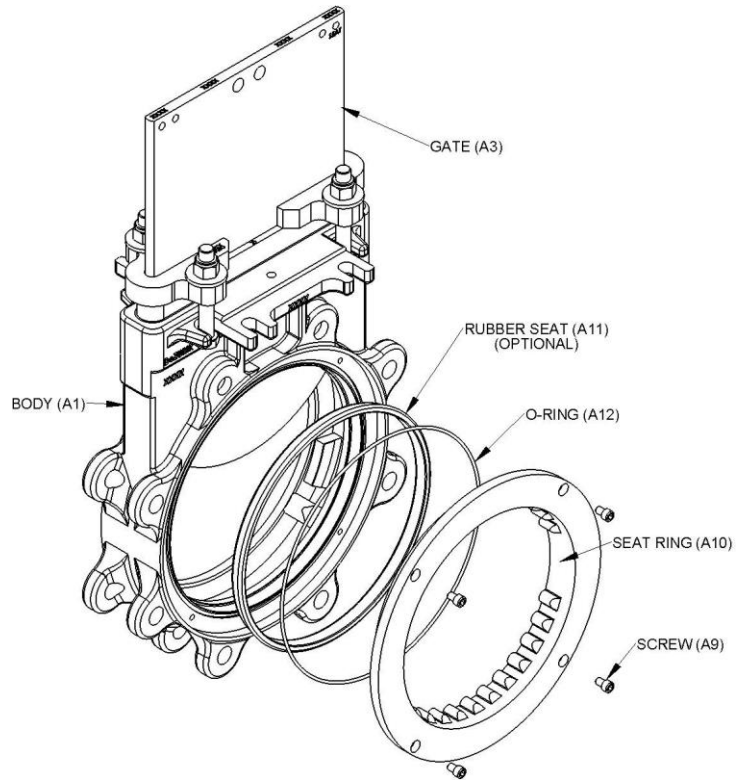

Figure 6
See Figure 6 for component identification.
- c. Insert new seat ring (A10) into the body (A1) until the seat ring(A10) rests against the shoulder in the body. **The portion without serration must be in 3 & 9 o'clock positions.** Orientation is shown on Figure 6.